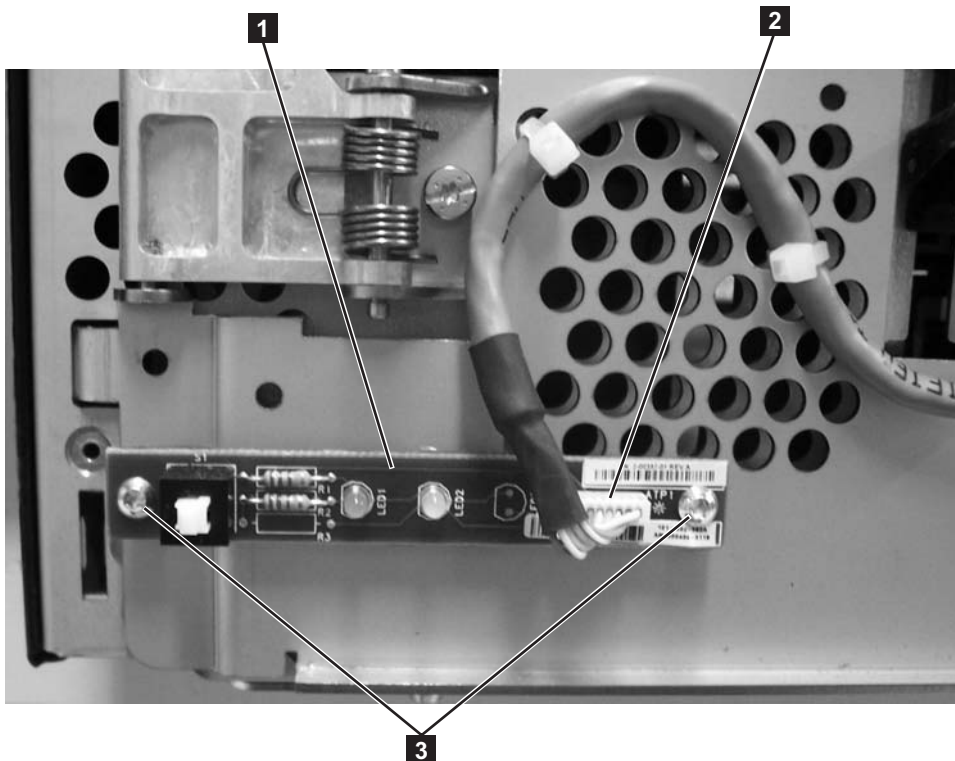

Figure 8-23. Power ON/OFF Button Assembly
The Power ON/OFF Button Assembly (**1** in Figure 8-23) contains the power ON/OFF button, power ON LED, and Operator Attention LED.
3. Disconnect the small white connector (**2** in Figure 8-23 on page 8-26).
4. Remove the two screws (**3** in Figure 8-23 on page 8-26).